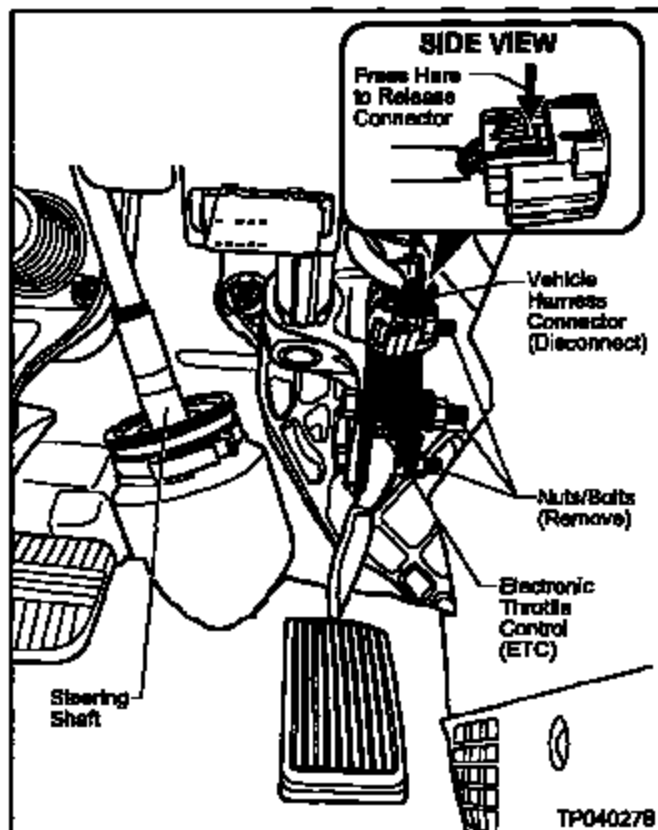

Figure F2
3. Disconnect the Vehicle Harness Connector from the Electronic Throttle Control (ETC) Assembly (see Figure F2).
- To release the connector, press the release button (on the connector). See Figure F2.
5. Remove and discard the three ETC mounting Nuts and Bolts (see Figure F2).